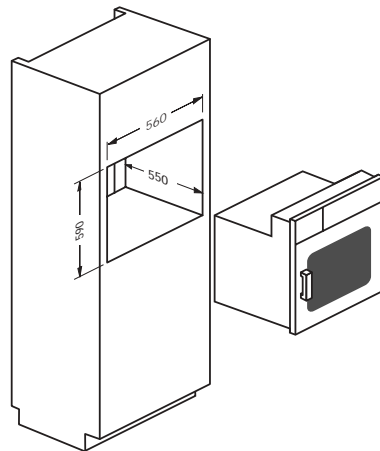

fig. 6
**Solo oven 990** (see fig. 6)